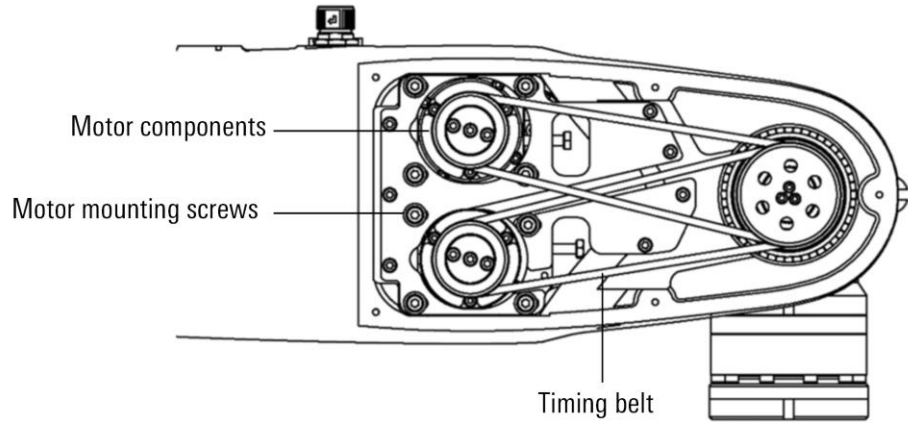

Figure 12-6 Remove the timing belt
- Step4. Loosen the mounting screws of the motor assembly, as shown in Figure 12-6.